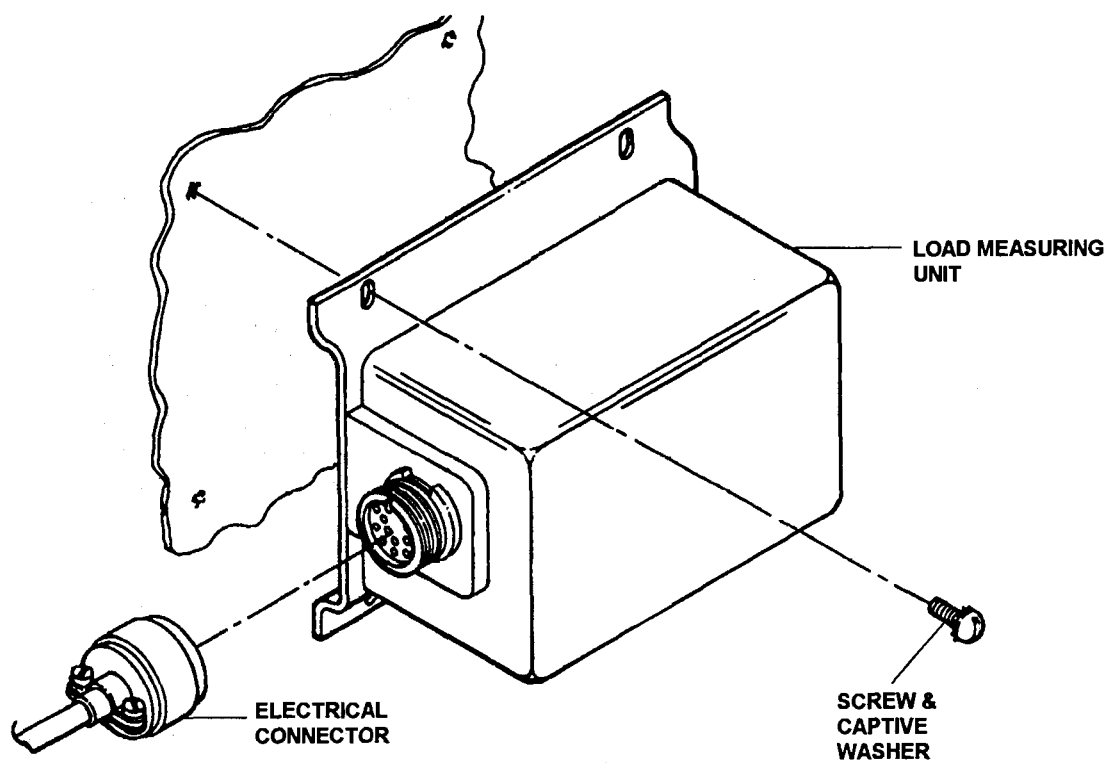

Figure 4-44. Load Measuring Unit, Removal and Installation
- (1) Tag and disconnect electrical connector from load measuring unit (Figure 4-44).
- (2) Remove screws and tooth lockwashers to remove load measuring unit.
- (1) Position load measuring unit and install tooth lockwashers and screws (Figure 4-44).
- (2) Connect electrical connector to load measuring unit.